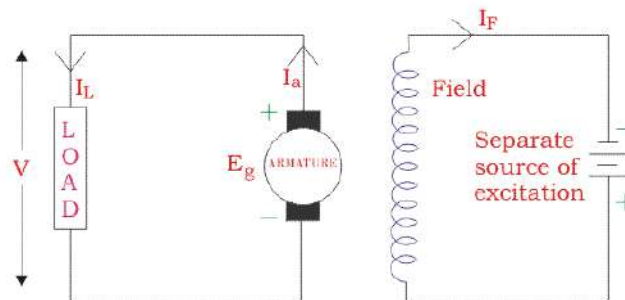

Figure.1.14. separately excited DC generator.
1.6.2. Separately excited DC Generator. When the flux in the magnetic circuit is created through the use of permanent magnets, then it is known as a Permanent magnet DC generator. These are the generators whose field magnets are energized by some external DC source, such as a battery. A circuit diagram of separately excited DC generator is shown in the figure 1.14.